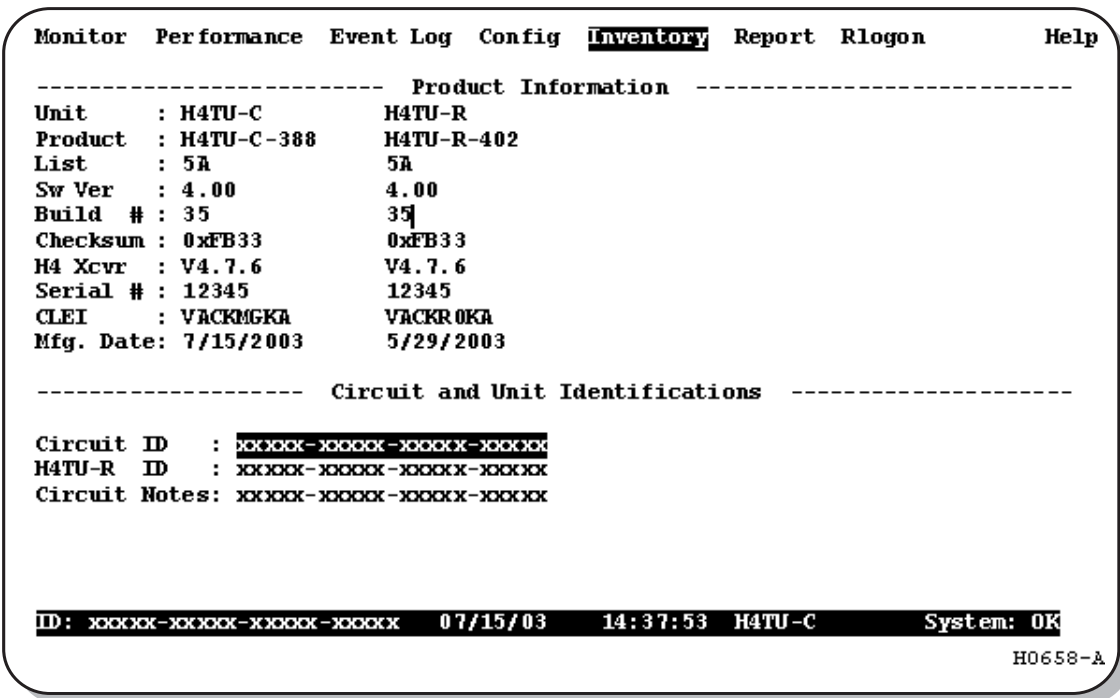

Figure 5. Inventory Screen
The Inventory screen provides product information on all units in the system and allows setting of the circuit and unit identification numbers. Figure 5 shows a typical example of an H4TU-C-388 List 5A and H4TU-R-402 List 5A Inventory Screen.
- 2 Type the Circuit ID number in the field indicated (see Figure 5), then press **ENTER**.